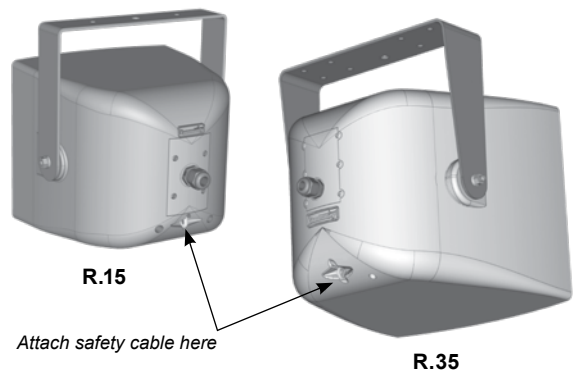

Figure 4. Attach the safety cable
□ Attach a safety cable to the integrated eyebolt on the rear of each loudspeaker (see **Figure 4**). The safety cable and hardware are not included. Please consult a structural engineer for the appropriate cable for the load and application. The safety cable must be secured to a suitable load-bearing point separate from the loudspeaker mounting point, with as little slack as possible, so as not to develop undue kinetic force if the R-Series mounting were to fail.